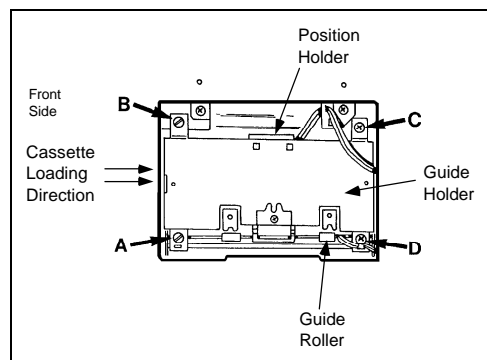

Figure 4-51. TX-1500 Thermal Head Adjustments
4. Turn the printer off and turn it upside down. Unscrew the two phillips head screws and remove the protective cover from the thermal head, exposing the adjustment screws (Figure 4-51).
Turn screws A and B (Figure 4-51) counter clockwise the same amount. Turn the printer back to its normal position and make two test prints to verify the effect of the adjustment.
Turn screws A and B (Figure 4-51) clockwise the same amount. Turn the printer back to its normal position and make two test prints to verify the effect of the adjustment.